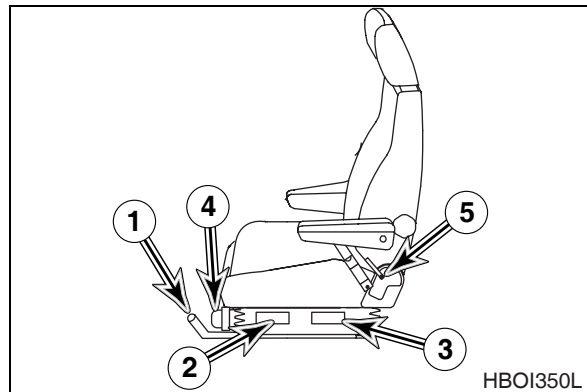

Figure 98
Holding lever (3, Figure 98), raise it up, while pushing or pulling seat to desired position. Release lever once desired position is reached. Adjustment range is 160 mm (6.3 in).
Pulling left lever (3, Figure 98) up allows rear part of seat to be moved up or down. Pulling lever (2) up allows front part of seat to be moved up or down. Adjust seat according to operator's size and work conditions. Adjustment range is 60 mm (2.36 in) for both front and rear.
Turning knob (4, Figure 98) to right makes suspension harder. Turning knob to left makes suspension softer. Adjust according to operator's weight by checking weight indicator dial. Adjustment range is from 50 - 120 kg (110 - 265 lb).
Pulling up right lever (5, Figure 98) allows seat backrest to be moved forward or backward.